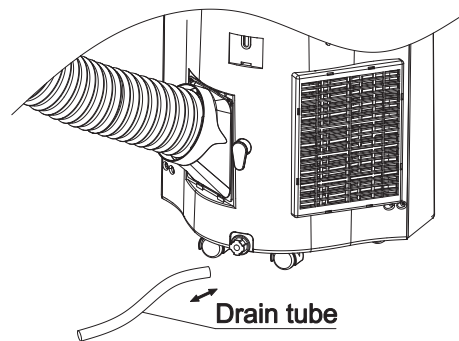

FIG.18
- Connect the other end of the tube to a drain (see Fig. 18).